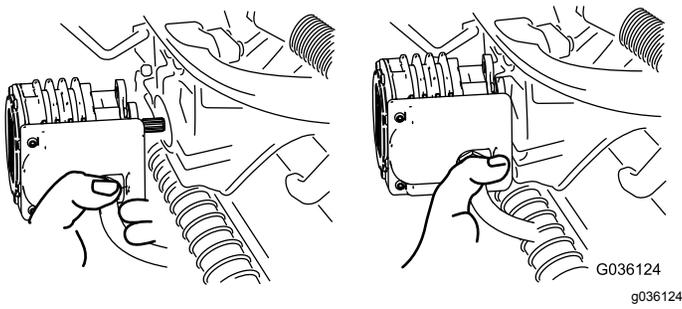

Figure 53
- Move the motor to the storage location on the front of the suspension arm (Figure 53).